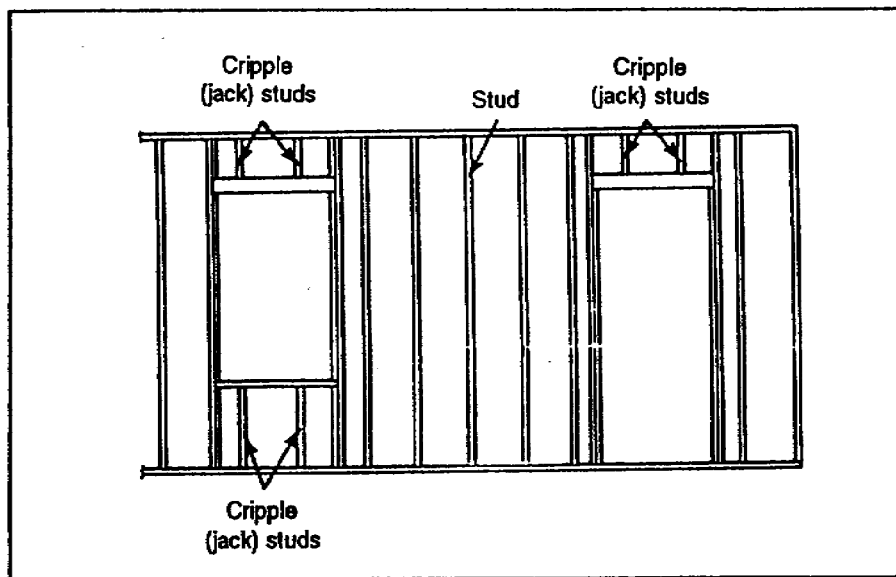

Figure 2-5. Cripples
c. Cripples. Place the cripple or jack studs under and over the window and over door openings (see Figure 2-5). Cripples are placed at the same intervals as the ordinary studs and are installed after the openings are framed. These serve the same purpose as studs in the rest of the wall.